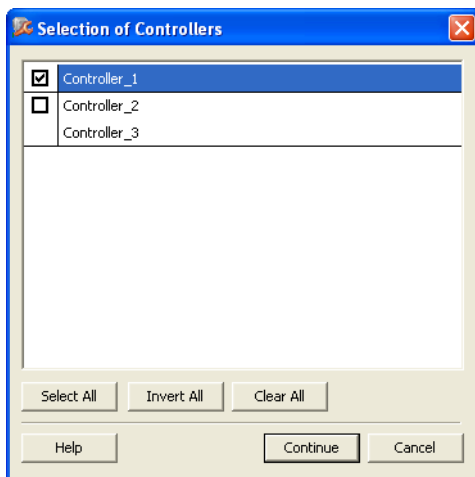

Figure 79. Selection of Controllers dialog
When **Tools > Download Project and Go Online** is selected for a project with more than one controller, the Selection of Controllers dialog is displayed. For example, in Figure 79, “Controller_2” and “Controller_3” cannot be separately selected or excluded since one application is connected to both these controllers.
1. Click **Continue**-button in Figure 79, an Online Analysis window opens.